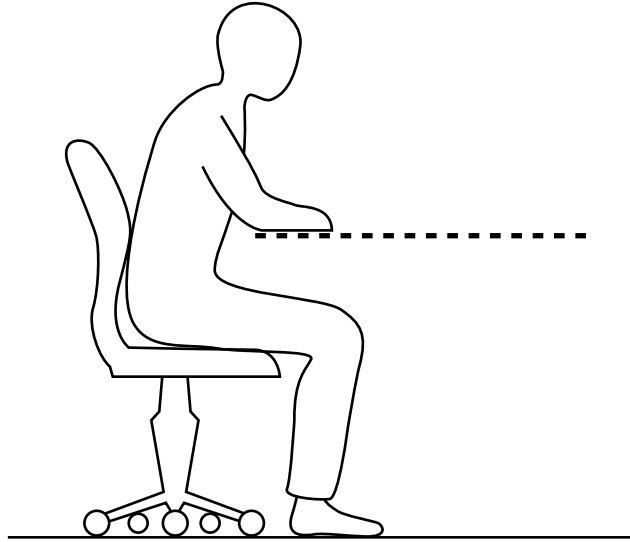

Fig. 3
- 7 Fig. 3 shows a person sitting ready to work at a desk.